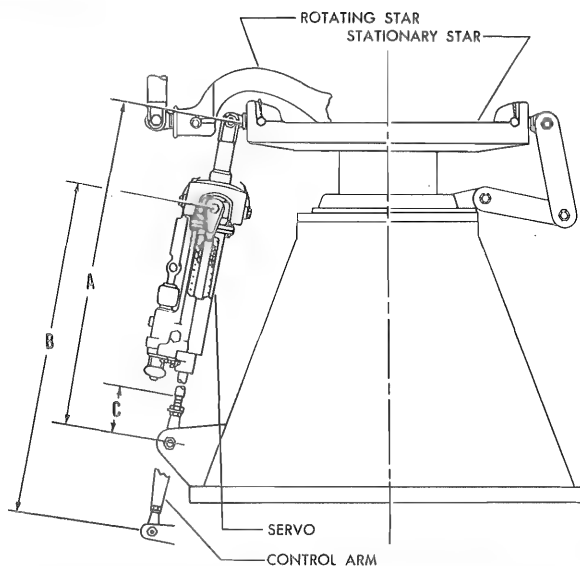

Figure 7-17. Rigging Dimensions Main Rotor Primary Servo Units
f. Check length of servo unit and control arm for dimensions given in figure 7-17 and table 7-V.
f. Check lengths of servo unit and control arm for dimensions given in figure 7-17 and table 7-V.